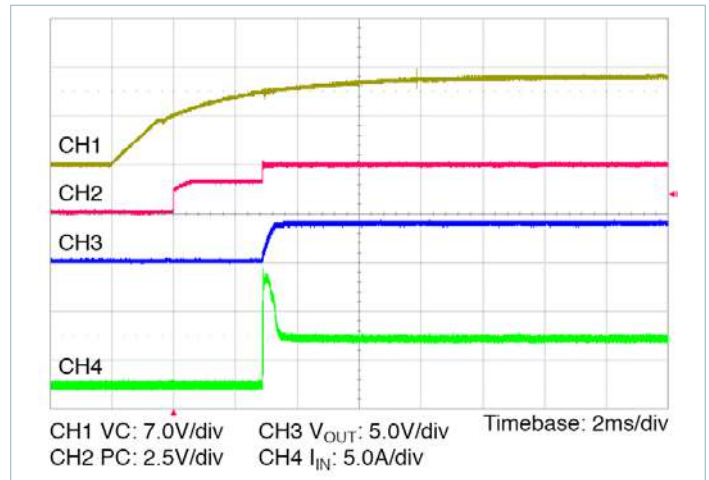

Figure 14 — Start up from application of VC; V_{IN} pre-applied $C_{OUT} = 1000\mu\text{F}$
- **Stand-alone operation (VC applied after V_{IN}):** In this case the VTM output will begin to rise upon the application of the VC voltage (See Figure 14). The Adaptive Soft-Start Circuit may vary the output rate of rise in order to limit the inrush current to its maximum level. When starting into high capacitance or a short, the output current will be limited for a maximum of 1200 μ s. After this period, the Adaptive Soft-Start Circuit will time out and the VTM module may shut down. No restart will be attempted until VC is re-applied or PC is toggled. The maximum output capacitance is limited to 1000 μ F in this mode of operation to ensure a successful start.